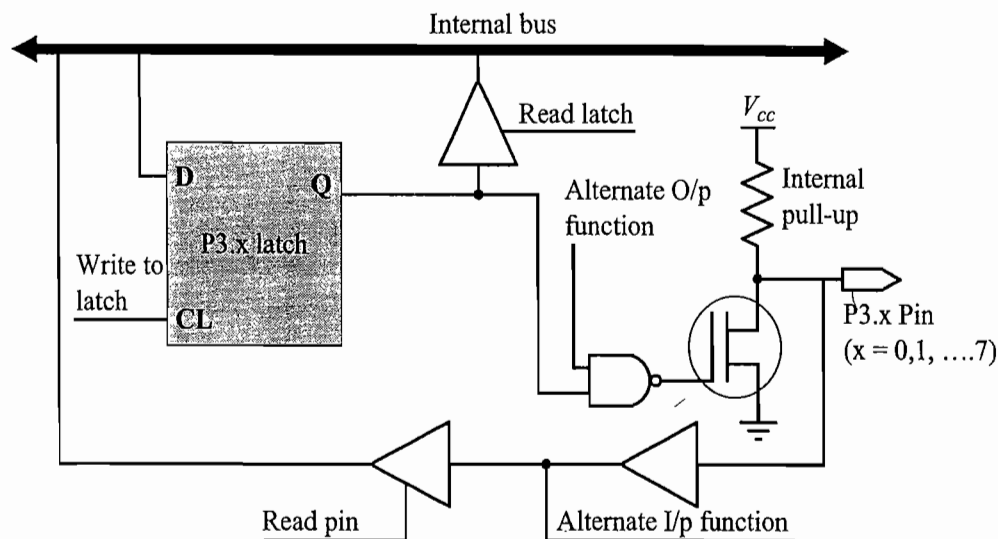

Fig 5.13 Port 3 pin organisation
5.3.5.4 Port 3 Port 3 is a general purpose I/O port which is also configurable for implementing alternative functions. Port 3 Pin configuration is shown in Fig. 5.13.